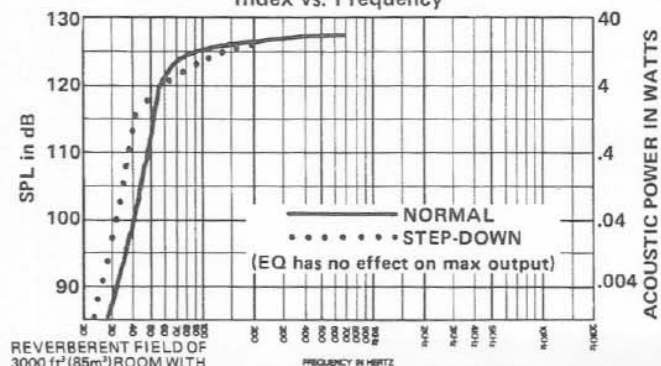
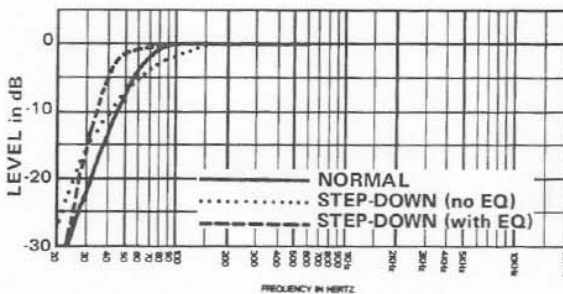

FIGURE 7
FIGURE 6
Figure 6 shows small-signal total acoustic power output versus frequency for the TL606/EVM-15L, Pro-Line. In addition, Figure 7 shows the maximum acoustic power output versus frequency. The maximum output is limited by either (1) the thermal power handling capacity of the speaker, or (2) the speaker's maximum linear cone excursion capabilities, whichever occurs first. Note that some 2 to 3 dB of maximum output in the 60 to 90 Hz range is sacrificed when the step-down mode is used.